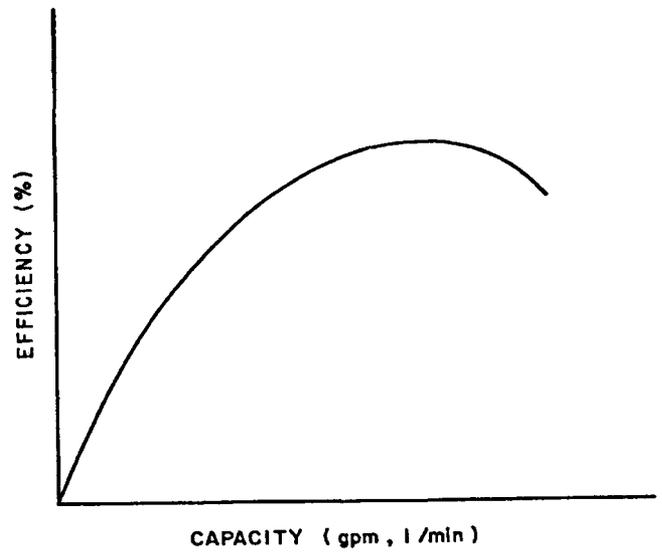
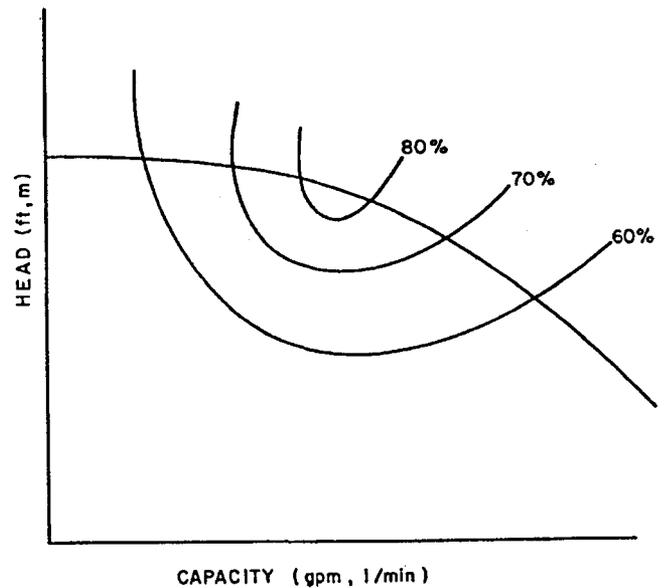

Figure 5. A typical efficiency versus capacity characteristic curve of a centrifugal pump.
Figure 6. Efficiency expressed as a series of envelope curves upon the head versus discharge characteristic curve of a centrifugal pump.
Figure 5 shows the curve relating efficiency (E) to discharge (Q). The E-Q relationship can also be drawn as a series of envelope curves upon the H-Q curve (Figure 6). The efficiency of a pump steadily increases to a peak, and then declines as Q increases further. Efficiencies vary between types of pumps, manufacturers and models.